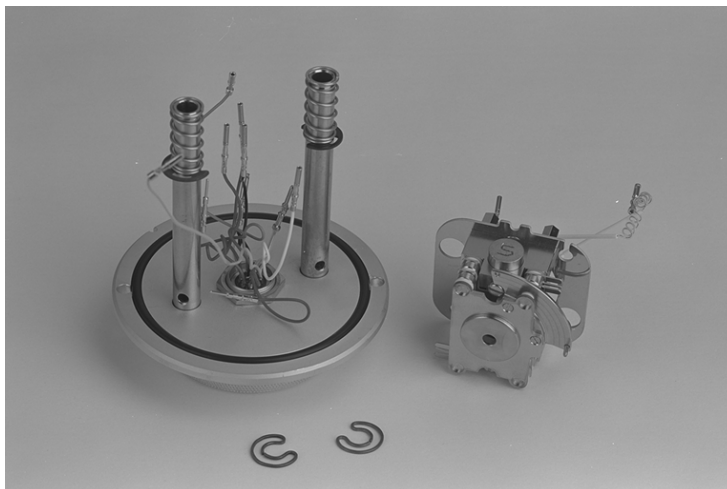

Figure 4-9. Source body removed from the rest of the assembly
3. Remove the source body from the rest of the assembly by removing the push-on circlips and lifting the body off the base (see Figure 4-9).